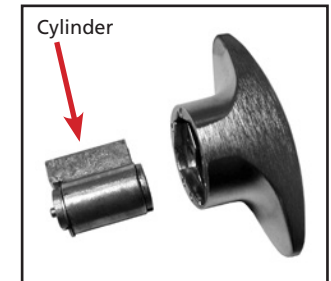

Figure 4
4. Remove the old cylinder. **(Fig. 4)**